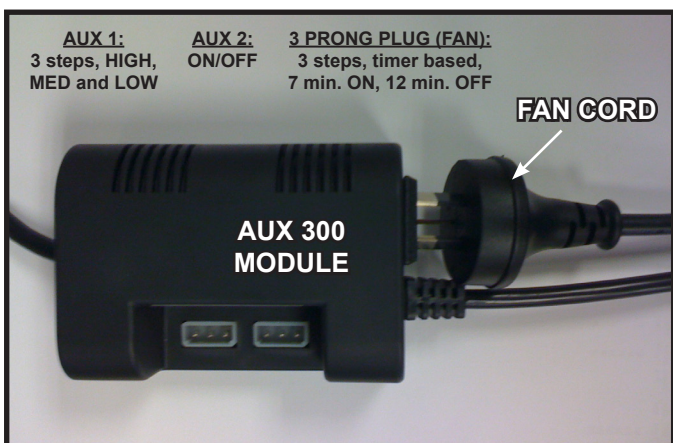

Figure 10.8. Plug Fan into AUX300CE Module
- Insert the 3 prong plug from the fan into the receptacle located in the AUX300CE module. See Figure 10.8.